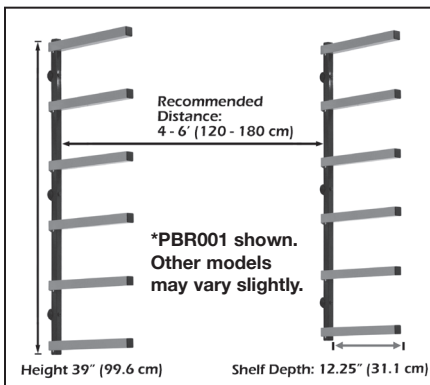

Figure 3
3. Installing to drywall or other paneled wall sheeting: Locating a solid structural support for your Portamate Wood Rack is very important. Ensure that you are securely contacting the center of the wall studs. Distance between the vertical bars is optional. The recommended distance to support the designed weight capacity is **4 – 6 ft. (120 - 180 cm)**. For longer material or greater weight, multiple wood racks can be used. Figure 3. The assembled Wood Rack is 1-5/8" (41mm) thick so a suitable length of fastener is 3" (76mm) and 1/4" (6mm) diameter.